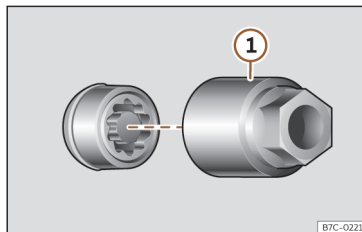

Fig. 203 Anti-theft wheel nut with cap and adapter.
- Insert the special adapter >>> **Fig. 203 ①** (vehicle tools >>> page 300) onto the anti-theft wheel nut and push it on as far as it will go.